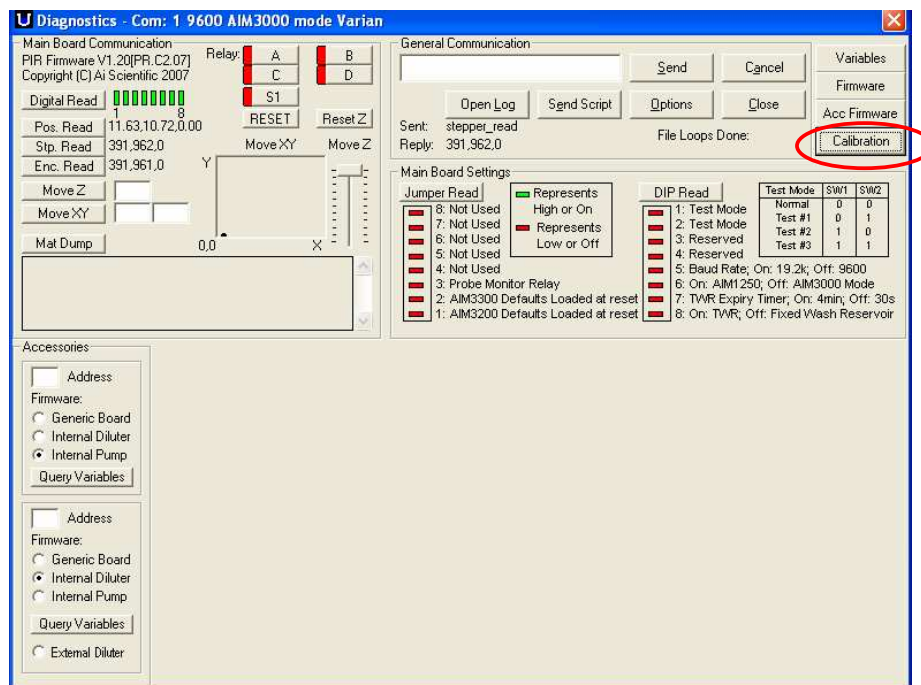

Figure 3: Diagnostics Screen of the Varian MDS Software
5. In the diagnostics window, click on the Calibration button (Figure 3)